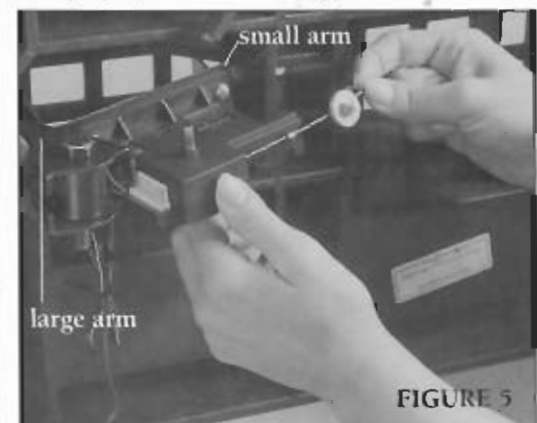

FIGURE 5
8. Clip the motor bracket into place on the bottom of the base. The large arm of the bracket should fit in the front of the first hole in the base. The small arm should fit in the back of the third hole of the base. You may have to bend the small arm in or out to fit the bracket properly into the base (Figure 5).